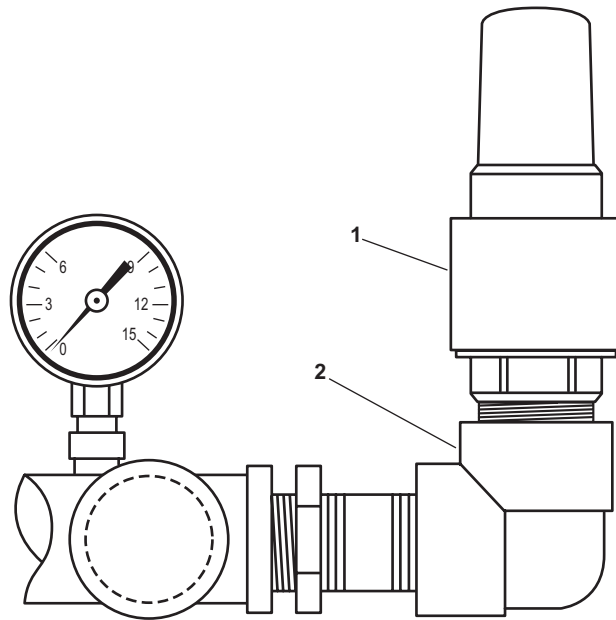

Figure 1. Blower Relief Valve
1. Remove the relief valve (figure 1, item 1) from the 90° elbow (figure 1, item 2) by rotating the relief valve until it separates from the piping.
1. Clean the male threads of the relief valve (figure 1, item 1) with a wire brush.
2. Apply antiseizing tape to the male threads of the relief valve (figure 1, item 1).
4. Install the relief valve (figure 1, item 1) into the 90° elbow (figure 1, item 2).